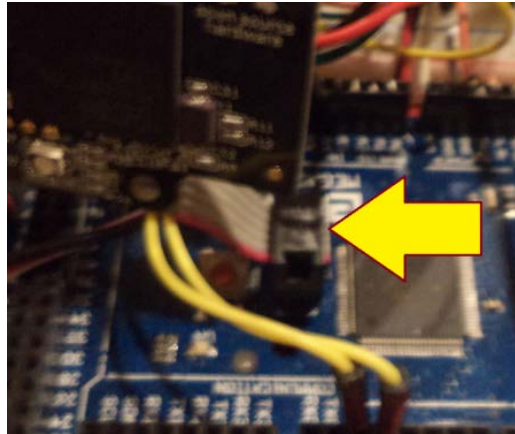

Figure 18: Connecting Pixy camera to the microcontroller (BE CAREFUL! Direction Matters!!)
5. Connect the Pixy camera to the Arduino Mega 2560 microcontroller by using Figure 18. Pay attention because the connector only works if connected in the correct direction.